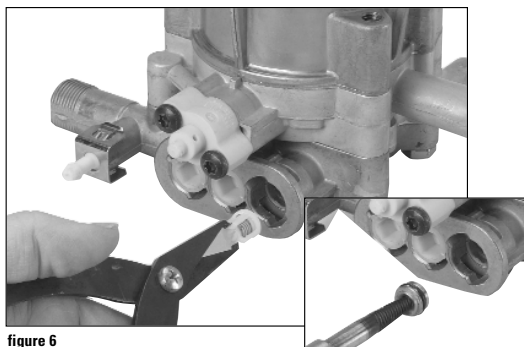

figure 6
3. Remove valve with valve pliers. (figure 6)